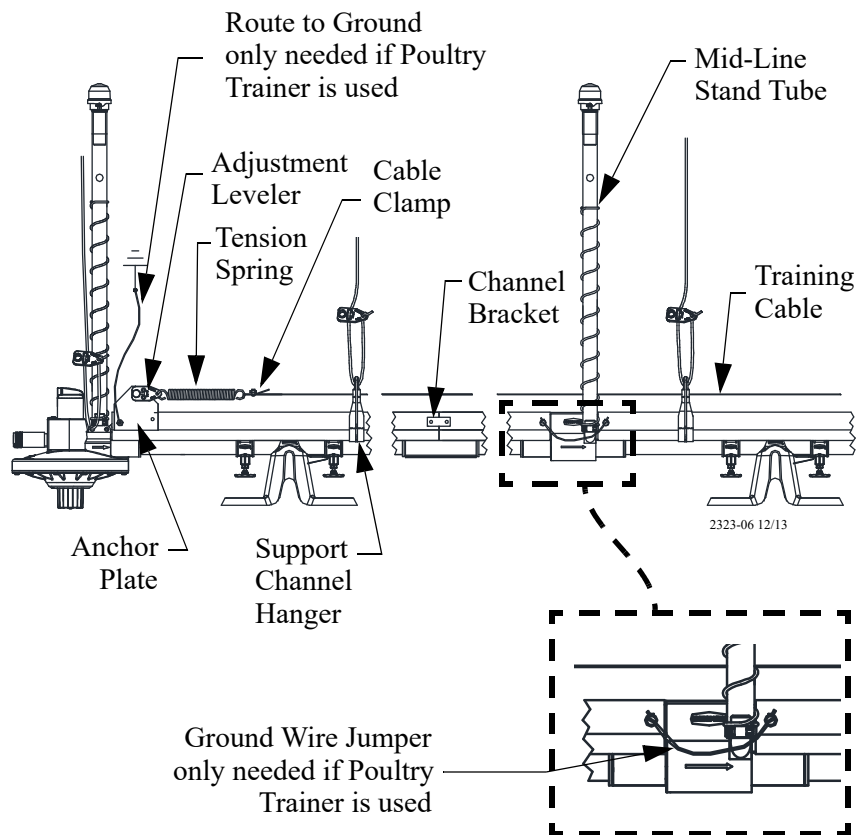

Figure 31. Anti-Roost Components
1. Make certain that an anchor plate with adjustment leveler is installed at the beginning and end of each anti-roost line. (See **Figure 31**).
- Note: Make sure that the support channel is attached to a ground (to insure proper operation of the poultry trainer). It will be necessary to install a jumper wire at stand tube, inlet assemblies, etc., to insure the ground circuit (See **Figure 31**).